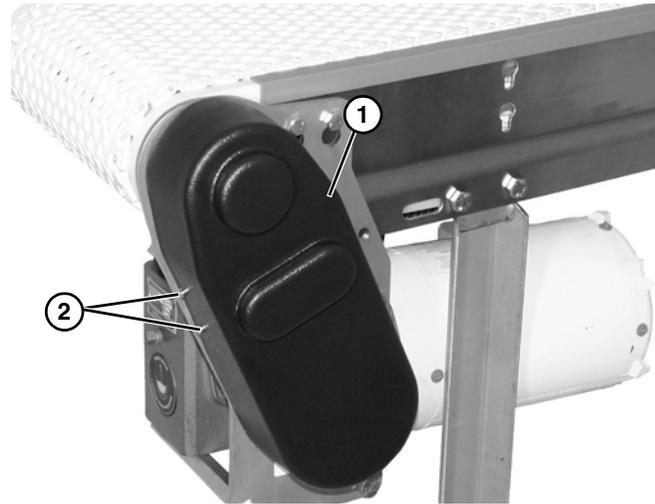

Figure 12
11. Install cover (**Figure 12, item 1**) with four (4) screws (**Figure 12, item 2**).